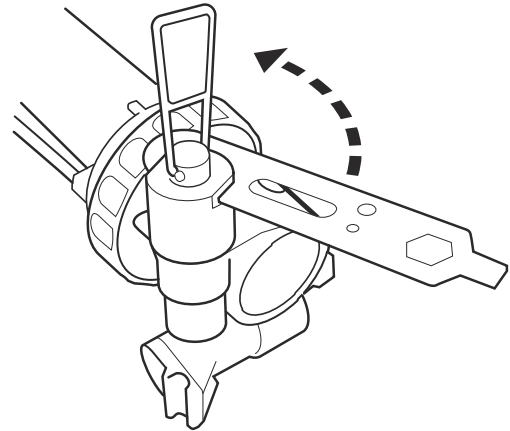

Figure 14-13. Unscrew the Stop Nut.
- Unscrew the stop nut two turns (see fig. 14-13 on page 14-17).